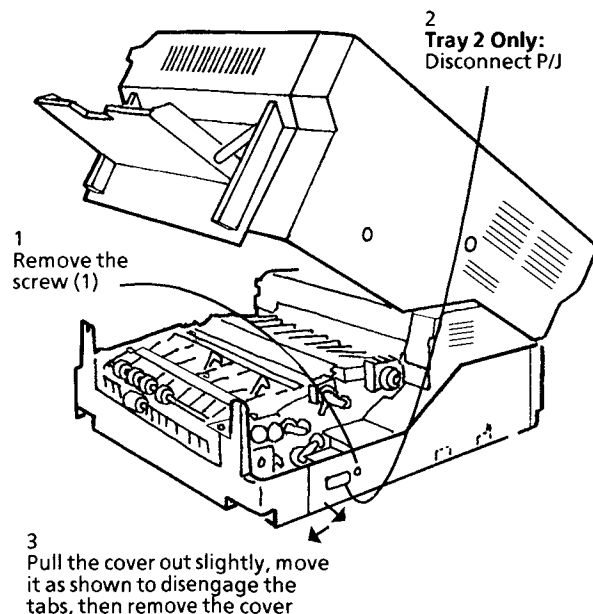

Figure 1. Removing the Lower Rear Cover
3. Remove the Lower Rear Cover (Figure 1).